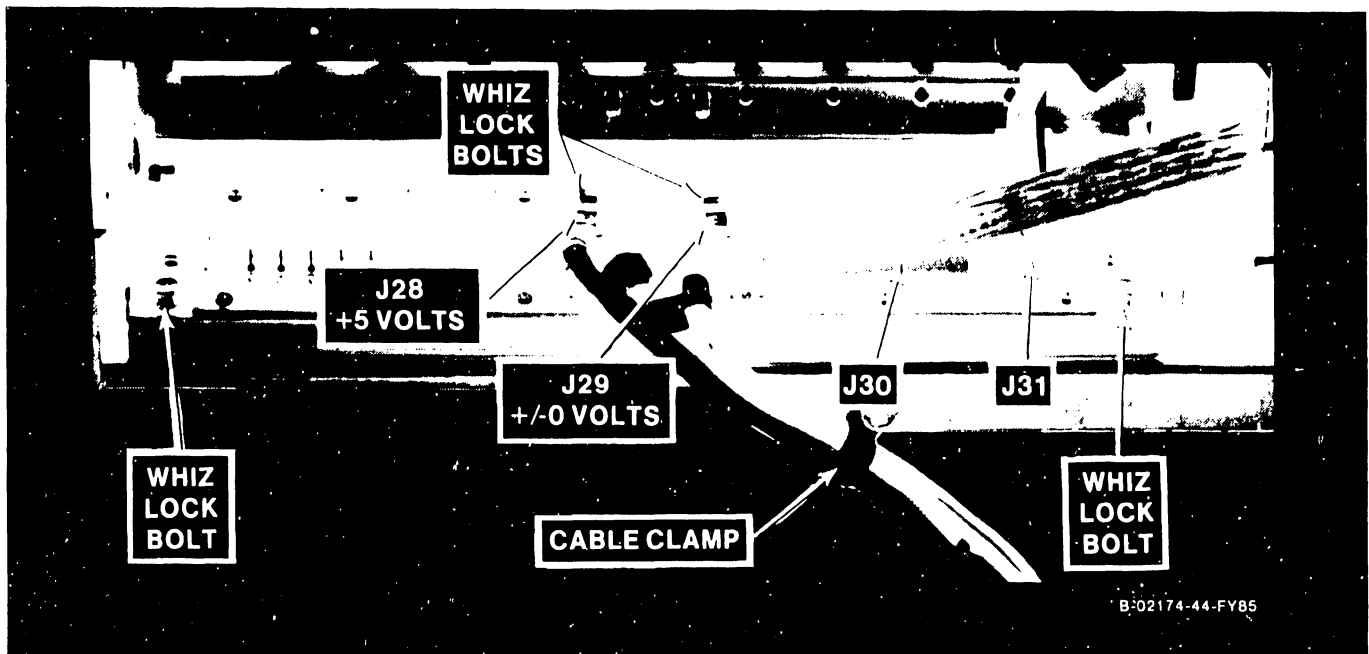

Figure 5-31. Motherboard Power Connectors
5.7.1.1 Motherboard Removal (Refer to figures 5-31 & 5-32 and proceed.)